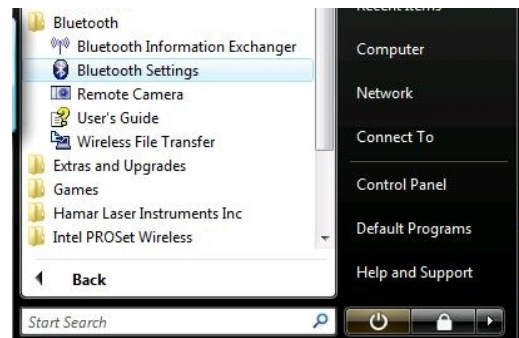

Figure 66 – Bluetooth Settings
1. Click **Start>All Programs>Bluetooth** and select **Bluetooth Settings** (see Figure 66).